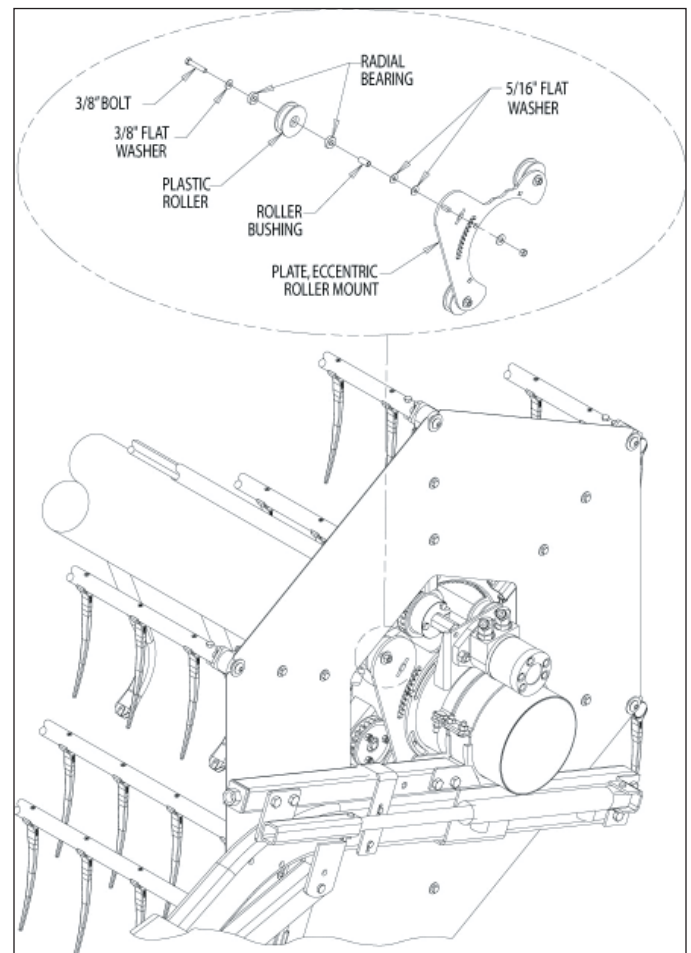

Figure 56, Loosen and remove hardware
5. Reassemble the eccentric roller assembly as shown in Figure 56.